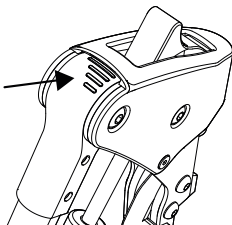

fig. 42
3. The grid lines can be used as an orientation for the set angle (fig. 42).